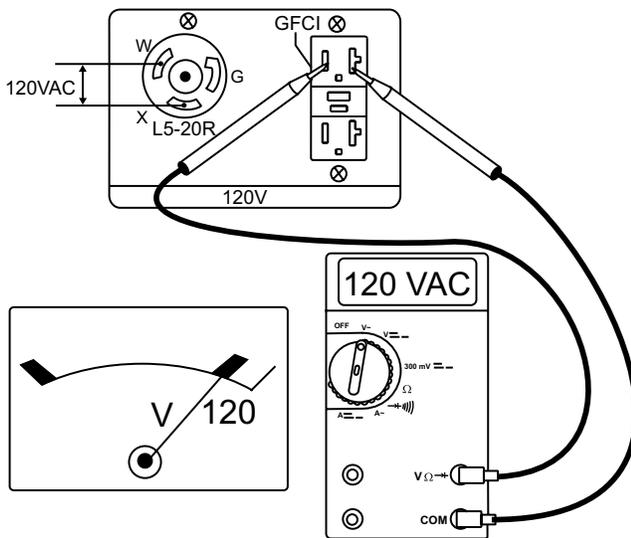

Figure 16. 120V Twist-Lock/Receptacles
- Read voltmeter on front panel of generator (Figure 16) and verify that 120 VAC is displayed. Using an external voltmeter as shown in Figure 16, verify that 120 VAC is present at the 120V twist-lock and duplex receptacles.